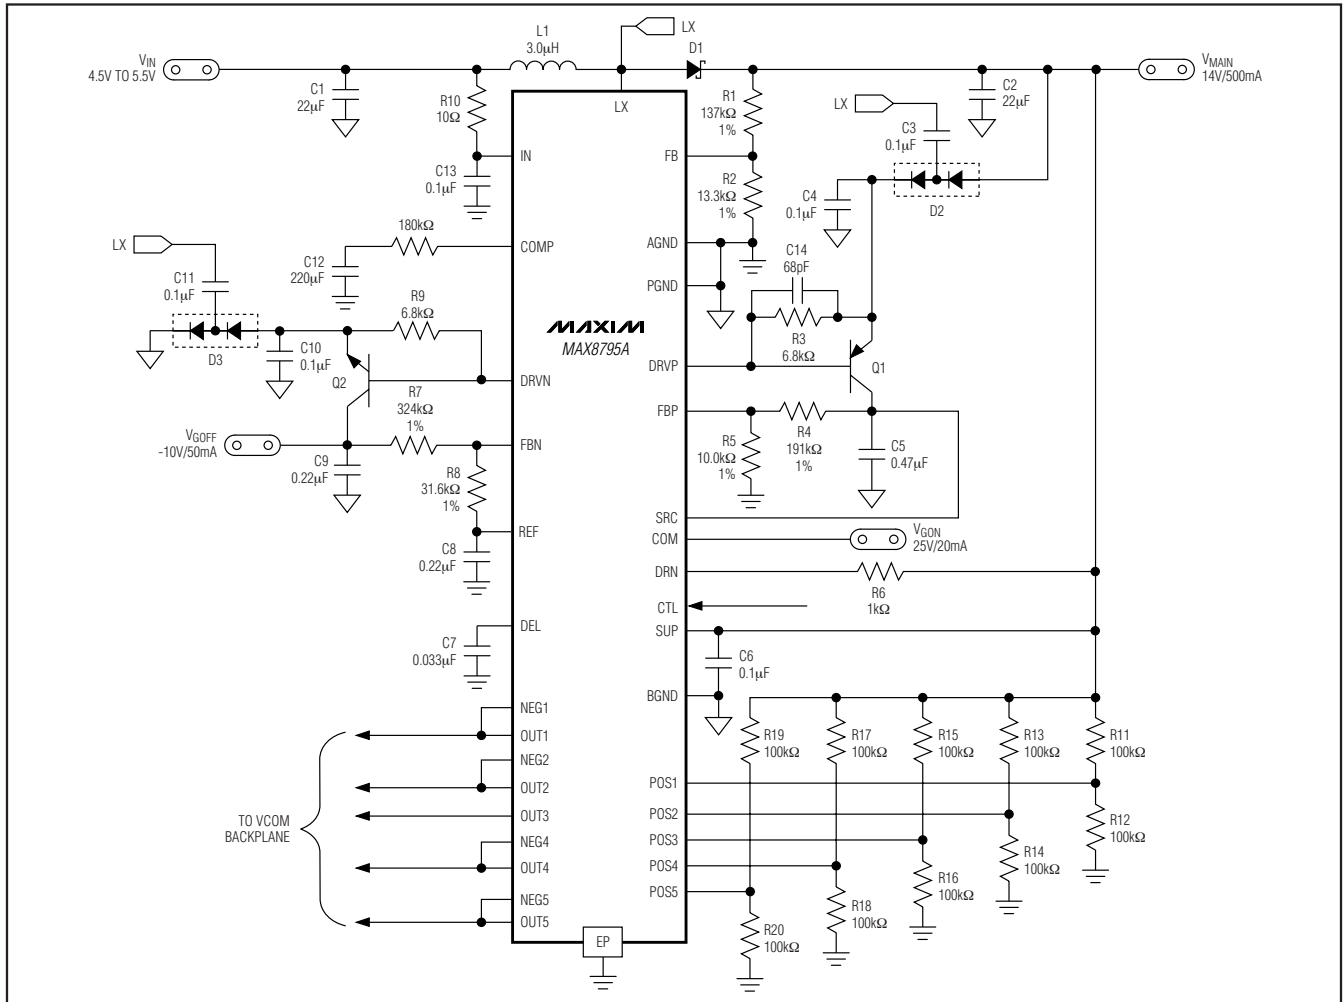

Figure 1. Typical Operating Circuit
(Circuit of Figure 1,  $V_{IN} = 5V$ ,  $V_{MAIN} = 14V$ ,  $V_{GON} = 25V$ ,  $V_{GOFF} = -10V$ ,  $T_A = +25^{\circ}C$ , unless otherwise noted.)
(Circuit of Figure 1,  $V_{IN} = 5V$ ,  $V_{MAIN} = 14V$ ,  $V_{GON} = 25V$ ,  $V_{GOFF} = -10V$ ,  $T_A = +25^\circ C$ , unless otherwise noted.)
The MAX8795A typical operating circuit (Figure 1) is a complete power-supply system for TFT LCDs. The circuit generates a +14V source-driver supply and +25V and
-10V gate-driver supplies. The input voltage range for the IC is from +2.5V to +5.5V. The listed load currents in Figure 1 are available from a +4.5V to +5.5V supply. Table 1 lists some recommended components, and Table 2 lists the contact information of component suppliers.
The gate-on linear-regulator controller (REG P) is an analog gain block with an open-drain n-channel output. It drives an external pnp pass transistor with a 6.8kΩ base-to-emitter resistor (Figure 1). Its guaranteed base-drive sink current is at least 1mA. The regulator including Q1 in Figure 1 uses a 0.47μF ceramic output capacitor and is designed to deliver 20mA at 25V. Other output voltages and currents are possible with the proper pass transistor and output capacitor. See the *Pass-Transistor Selection and Stability Requirements* sections.
The gate-off linear-regulator controller (REG N) is an analog gain block with an open-drain p-channel output. It drives an external npn pass transistor with a 6.8k $\Omega$  base-to-emitter resistor (Figure 1). Its guaranteed base-drive source current is at least 1mA. The regulator including Q2 in Figure 1 uses a 0.47 $\mu$ F ceramic output capacitor and is designed to deliver 50mA at -10V. Other output voltages and currents are possible with the proper pass transistor and output capacitor (see the *Pass-Transistor Selection* and *Stability Requirements* sections).
REG N is typically used to provide the TFT-LCD gate drivers' gate-off voltage. A negative voltage can be produced using a charge-pump circuit as shown in Figure 1. REG N is enabled after the voltage on REF exceeds 1.0V. Each time it is enabled, the control goes through a soft-start routine that ramps down its internal reference DAC from VREF to 250mV in 128 steps.